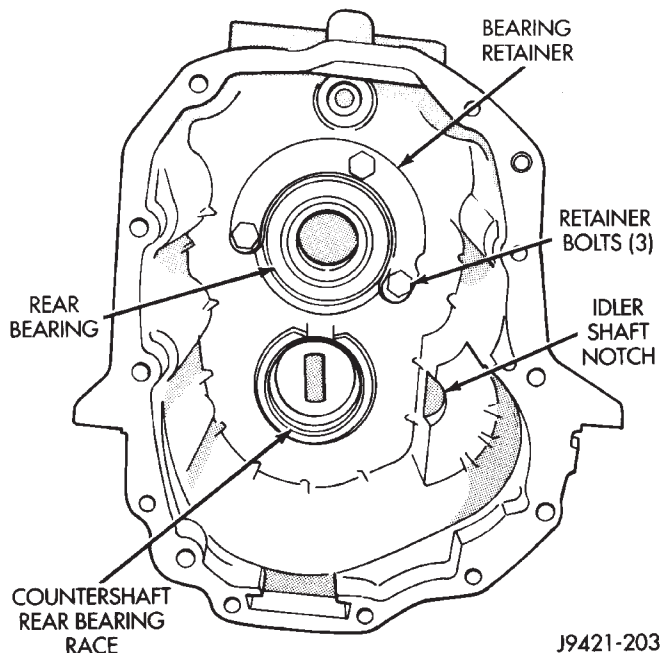

Fig. 37 Rear Adapter Housing Components
(4) Remove bearing retainer bolts and remove rear bearing retainer and rear bearing (Fig. 37). Use hammer handle to push or tap bearing out of housing if needed.
(5) Examine condition of bearing bore, countershaft rear bearing race and idler shaft notch in rear housing. Replace housing if race, bore or notch are worn or damaged.